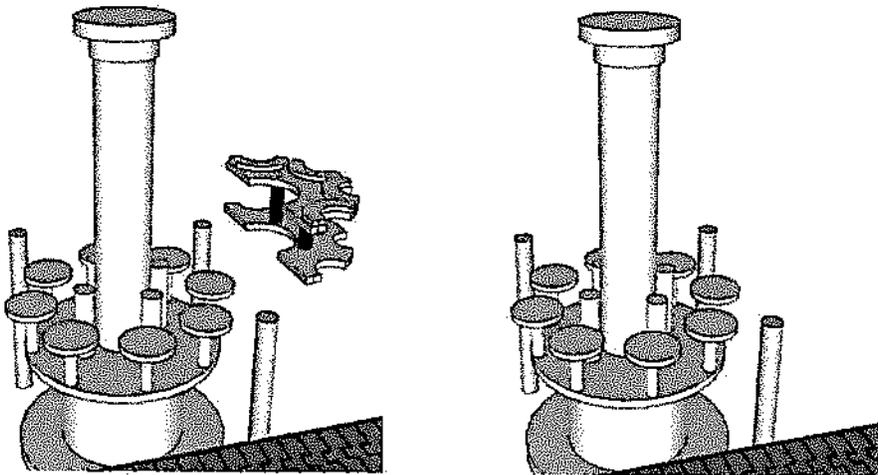

fig.29
- Remove the half-starwheel (fig.29).